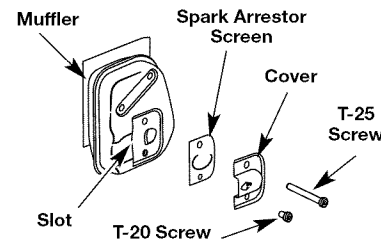

Fig. 33
2. With an appropriate screwdriver, remove the 2 screws attaching the spark arrestor cover to the muffler (Fig. 33).